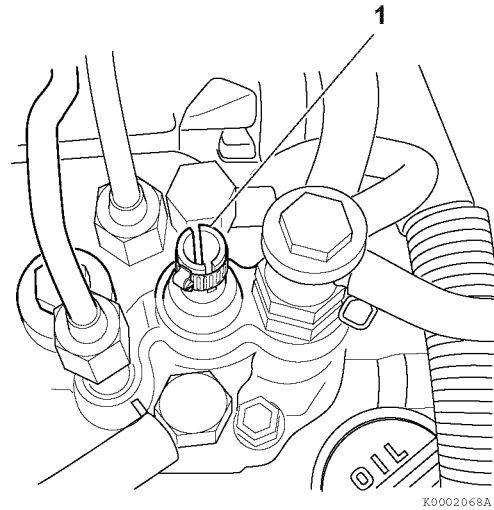
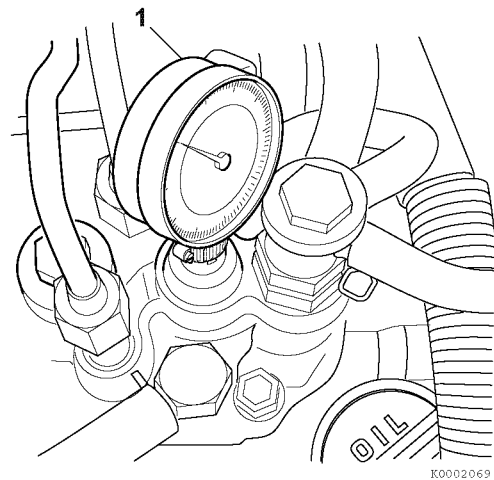

Figure 7-42
Figure 7-43
Note: Use the YANMAR part no. 158090-51831 M14 adapter for the MP2 fuel injection pumps (TNV82 - 88 model engines) or YANMAR part no. 158090-51841 for the M16 adapter used on the MP4 fuel injection pumps (TNV94 - 106 model engines) and YANMAR part no. 23000-013000 plunger adapter clamp (Figure 7-42, (1)).
5. Install a dial indicator (Figure 7-43, (1)), Mitutoyo No. 2050SB or equivalent, with a 30 mm extension, YANMAR Part No. 158090-51870 or Mitutoyo No. 303613, into the adapter. Secure with the YANMAR Part No. 23000-013000 plunger adapter clamp (Figure 7-42, (1)) at approximately the mid-point of its travel.